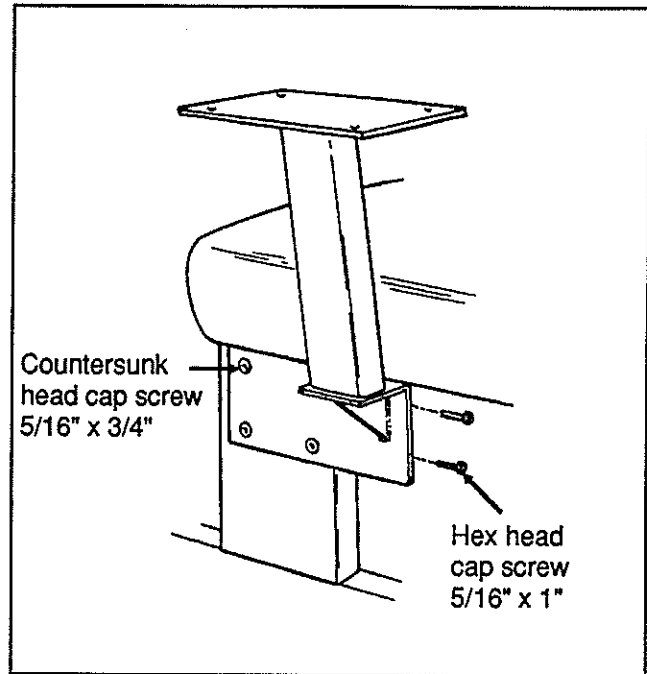

Figure 5 - Table stand Installation IS917705
26. Position rectangular table stand against seat module support as illustrated in figure 5, attach loosely using (4) 5/16" x 3/4" countersunk head bolts, nuts, flat and lock washers then (2) 5/16" x 1" bolts.